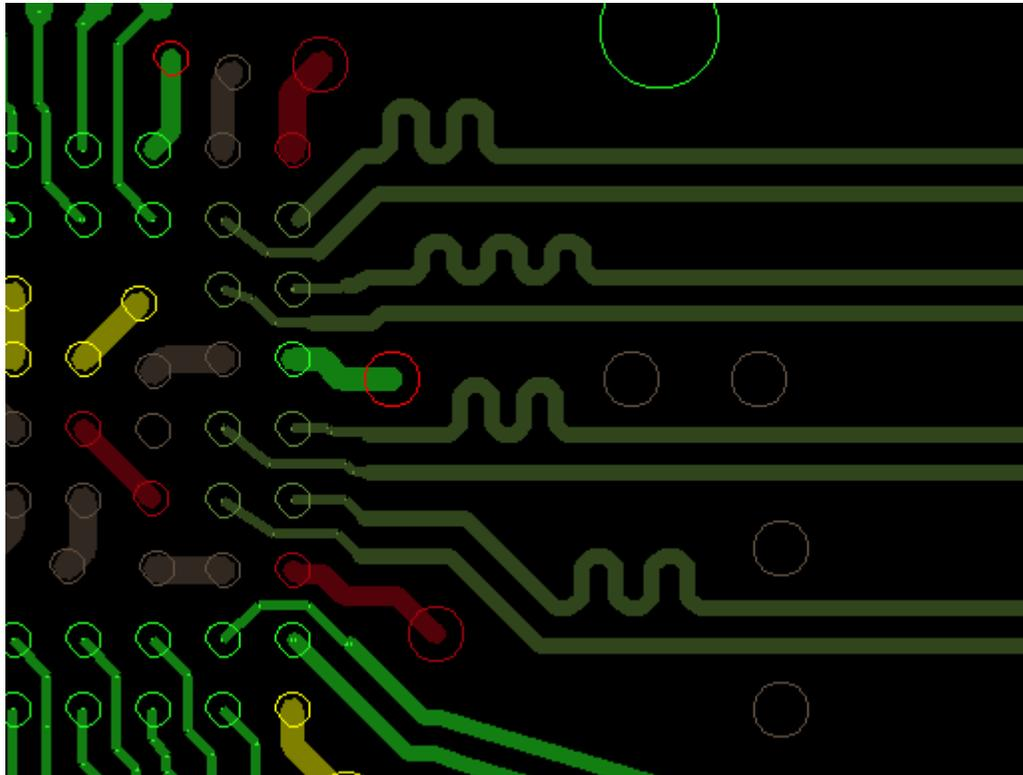

Figure 4. DisplayPort Main Link Routing Example
4. Length matching should be near the location of mismatch. Refer to Figure 4 for an example.